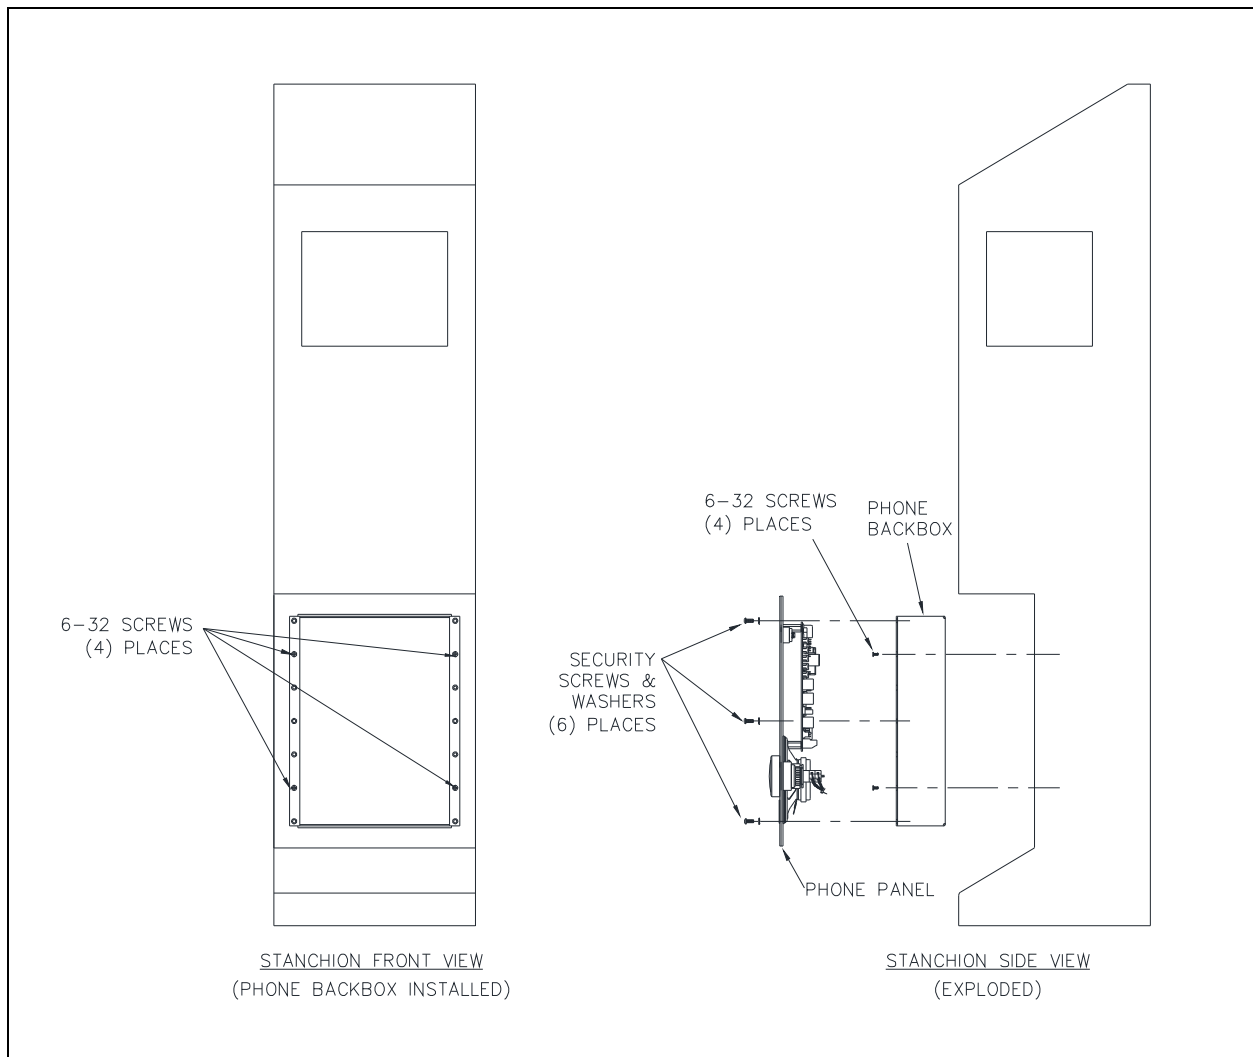

Figure 7. Telephone and Back Box Installation
3. Fasten the back box using four #6-32 self-tapping flat head screws (see Figure 7).